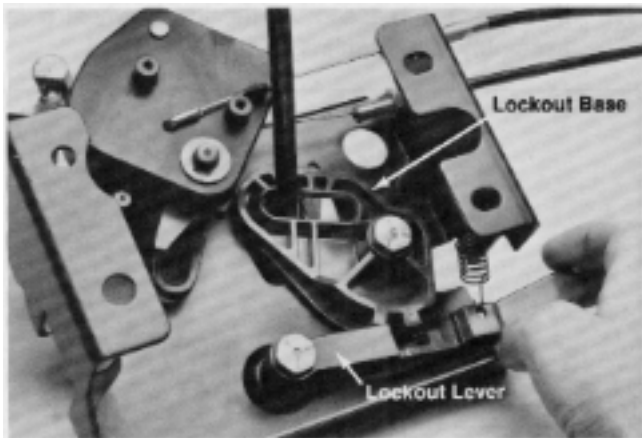

Figure 26
2. When the lockout lever is pulled back to the position shown in Figure 26, the shift lever should be free to move forward and backward.